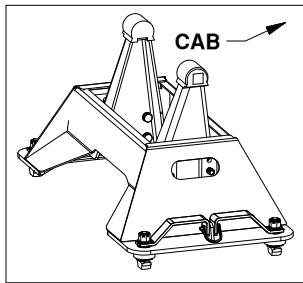
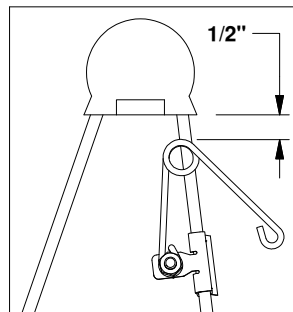

Figure B3: View of base.
Figure B4: Driver
2. Locate the flange which will be closest to the truck cab on the driver side pivot arm, see Figure B3. The clip should be placed so that when the springs coil is in the line with the edge of the arm there will be 1/2" of clearance between the bottom of the rubber bumper and the top of the spring, see Figure B4. Drive the clip securely onto the flange with a hammer.